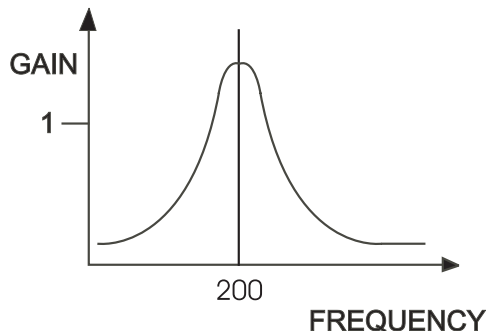

Figure 7 – Frequency response of 200 Hz Filter
6) Now turn all the sliders down except the lowest one. Figure 7 shows the frequency response of just the lowest filter. Experiment by turning each slider up one at a time, while the rest of the sliders are all the way down. Pay careful attention to the sound of each filter. When you have learned the sound of each individual filter, try various combinations, such as the bottom two and top two.